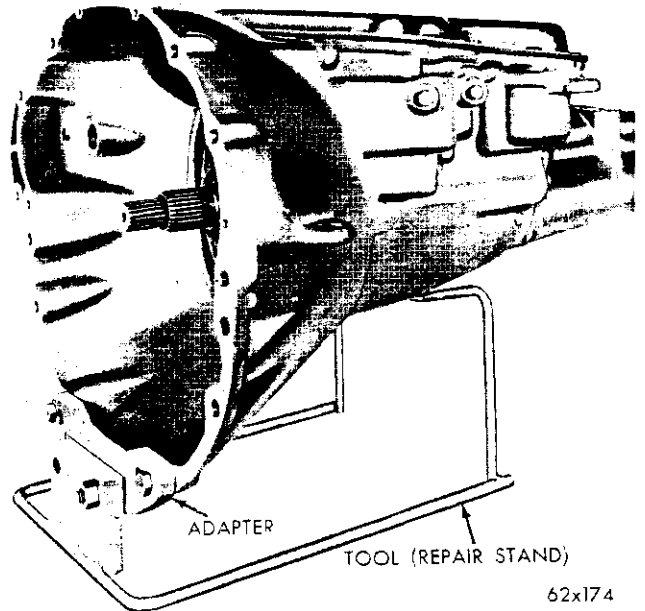

Fig. 50—Transmission Installed in Repair Stand
(1) Place the transmission assembly in repair stand, Tool C-3750 with adapter C-3882 (Fig. 50).